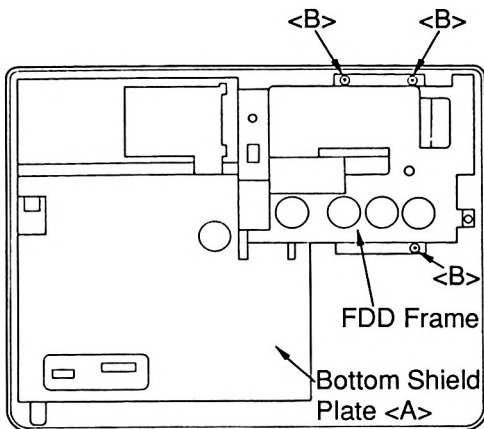

Figure 16
- (1) After removing the main PCB, gently lift up the bottom shield plate <A> from the bottom case as shown in Figure 16.
- (2) Remove three screws ($3\varnothing\times 8$) fixing the FDD frame as shown in Figure 16.